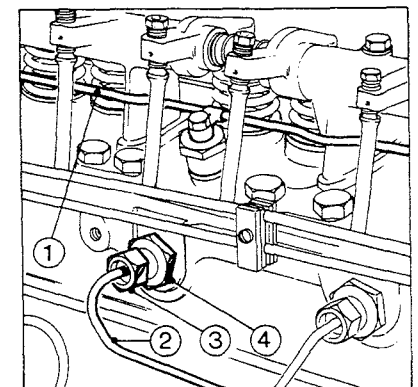
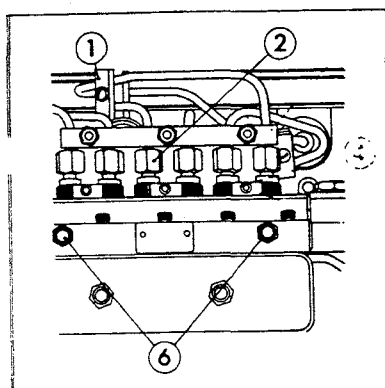

FIG. 28
FIG. 29
**TO REMOVE INJECTORS:** Remove the rocker arm cover from top of engine. Remove the fuel leak-off pipe (fig. 28) by unscrewing the union nut at rear of cylinder head and the bolts connecting leak-off pipe to each injector. Care must be exercised not to bend or damage fuel injector pipes so it is suggested that the union nuts at top of injection pump (fig. 29) be loosened after first removing the injector pipe clamp(s).
Slacken each of the oil seal nuts (fig. 28) on side of cylinder head and by unscrewing the fuel inlet adaptor nuts, remove adaptors from the injectors.